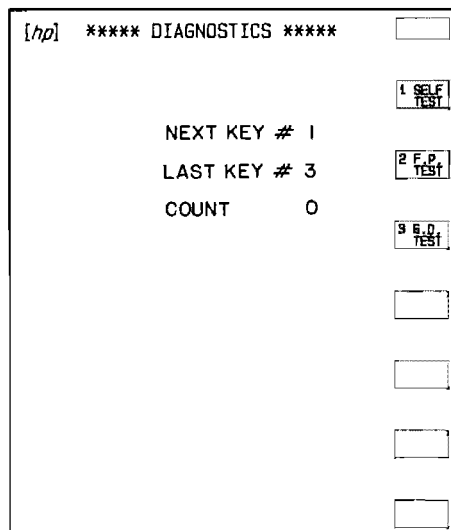

Figure 4-3. Display for Key Function Check.
4. Obtain the display shown Figure 4-3 by pressing the F.P. TEST softkey.